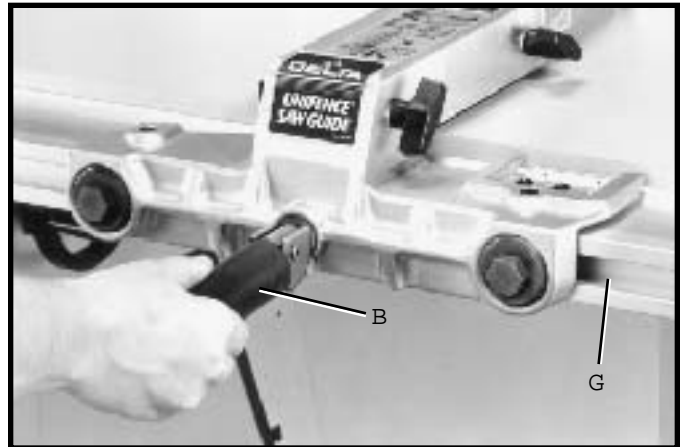

Fig. 67
3 Turn handle (B) Fig. 67, to the right indent position as shown. This will prevent fence clamp from sliding out of the channel (G).